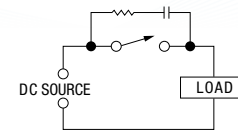

Figure 4 — R-C Suppression ($1 \Omega / \text{kV}$; 0.125–1 MFD)
2. Vacuum switches using an R-C suppression across the contacts can interrupt slightly higher currents with less arcing time, which increases contact life. (See Figure 4.)